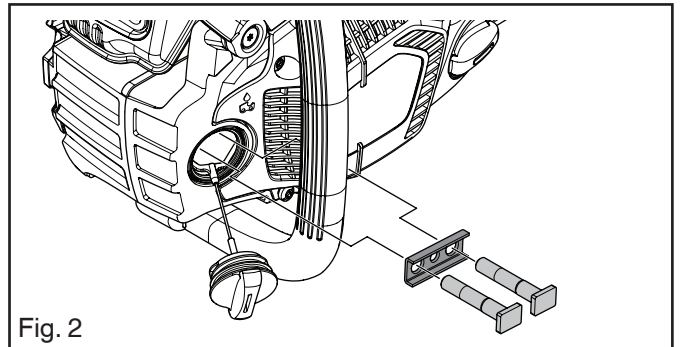

Fig. 2
3. Remove the bolts from the oil tank. See Figure 2.